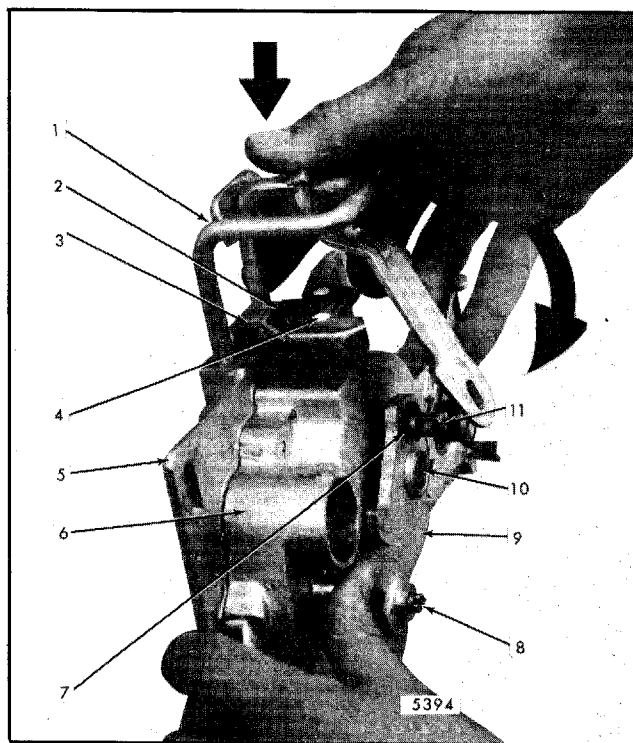

Fig. 7-45-Closing Unit Link Installation
8. While lowering striker into striker guides, rotate link and cover assembly as shown in Figure 7-45 until slotted hole in lower end of link slips onto the output cam pivot pin.